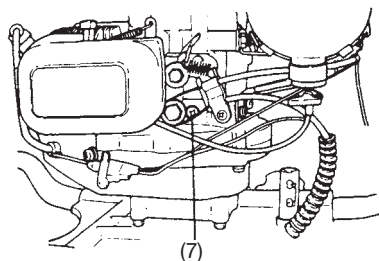

Fig. 12
- 2) Engine speed governor is lubricated with # 30 weight oil (EP lithum). The capacity is 0.5 fl.oz. (16ml) and should be checked every 50 hours of use at the level check screw. (Fig. 12) When unscrewing the check screw, keep the screw side up.